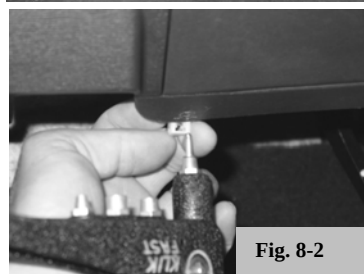

Fig. 8-2
- (1) The metal brackets mount behind the dash panel. (Fig. 8-2)